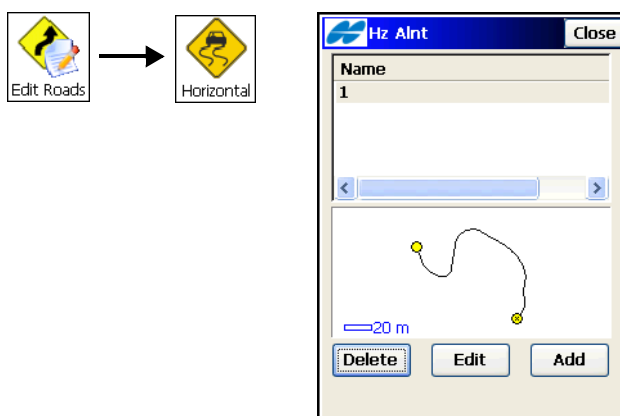

Figure 7-4. Horizontal Alignment
1. To edit the horizontal alignment, in the **Hz Alnt** screen (Figure 7-4), either double-tap the horizontal alignment or highlight it and tap the **Edit** button.